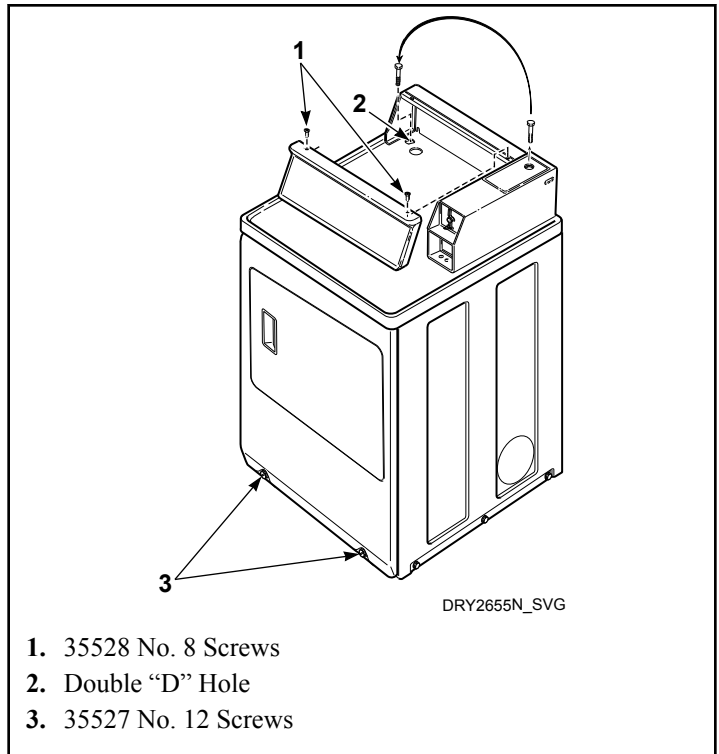

Figure 35
1. Remove the Phillips head screw from service door (refer to Figure 35).